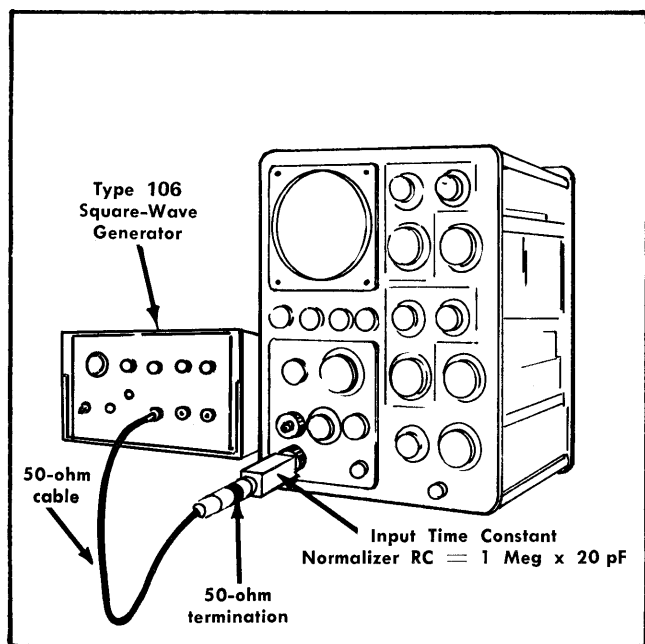

Fig. 5-7. Setup for performing step 28.
b. Apply a 1 kHz Hi Amplitude signal from the square-wave generator, through a coaxial cable, a 50-ohm termination, and a 1-meg X 20-pF input time constant normalizer (in that order) to the B input connector (see Fig. 5-7).